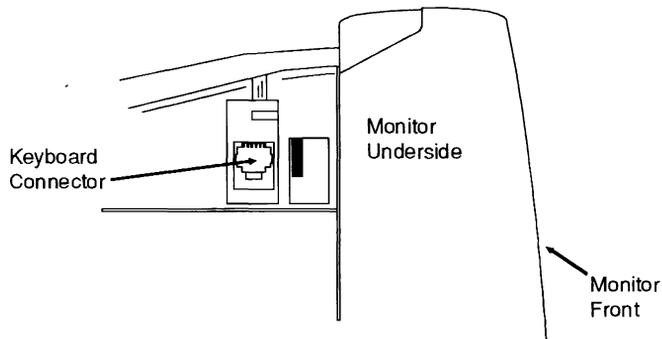

Figure 1-1. Keyboard Connector Location
3. Connect the keyboard. Figure 1-1 shows the terminal's keyboard connector location.